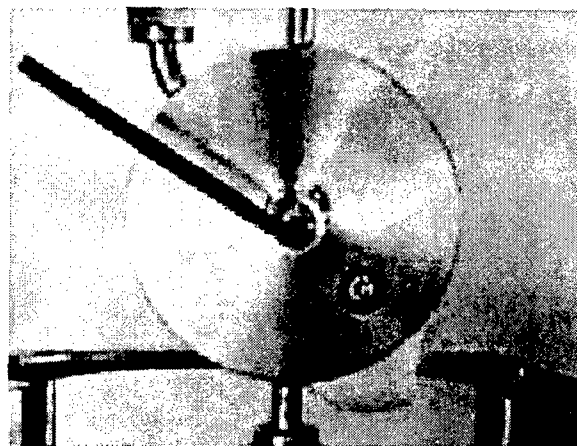

Figure 6-4.7. Removing protective cover for flow set screw
- 15 Remove the outer protective screw located on the center of the flow restrictor's face using the 1/8" hex key as shown in Figure 6-4.7. The flow set screw is recessed under this protective screw.